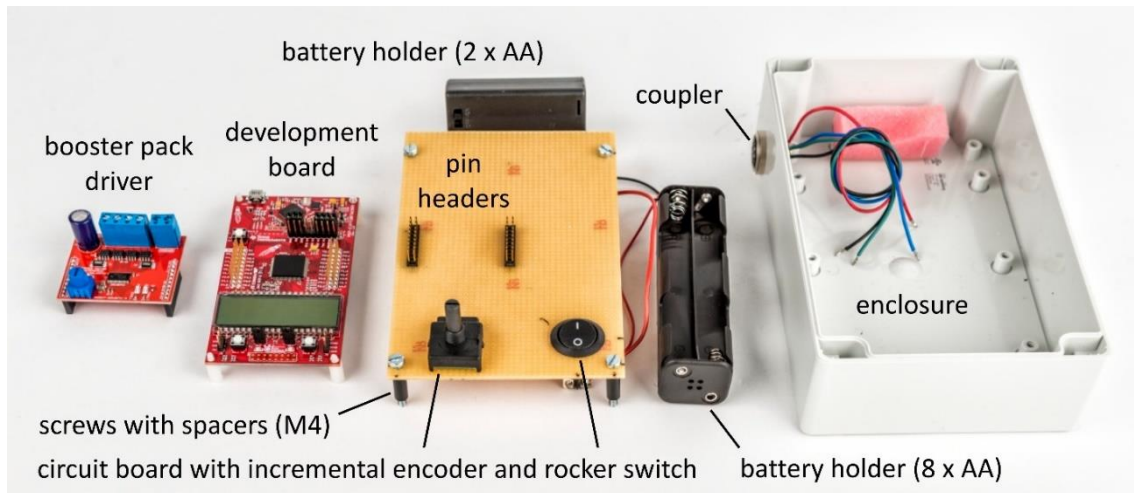

Figure 6 Overview of the main parts of the control unit (Photo by André Künzelmann, UFZ)
11. Prepare the parts of the control unit according to Figure 6. Mount the coupler into the enclosure and the pin headers, the incremental encoder, and the rocker switch onto the prototyping circuit board.